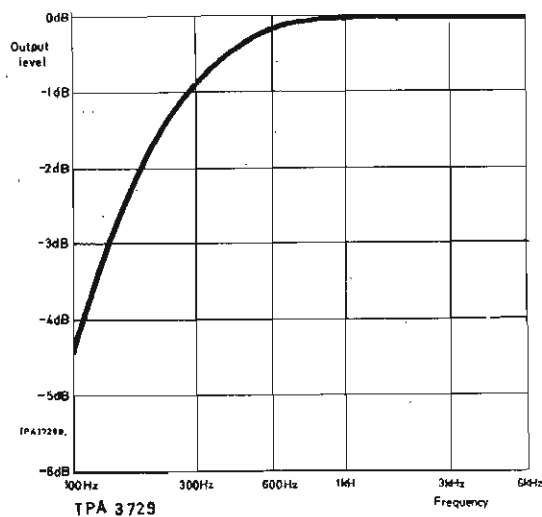

Fig. 2 Typical balanced output level below 6 kHz (ref. to -22dBm, 150 Ω)
5. The level oscillator generates signals which are highly stable both in frequency and amplitude. Frequency may be set between 100 Hz and 19.999995 MHz to 5 Hz resolution. In the range -70 dB to +10 dB output power may be set to 0.1 dB resolution or, alternatively, to 1 dB resolution with continuous fine tuning to ± 1.1 dB. Balanced and unbalanced outputs may be selected over a wide range of impedances. Frequency and level are read from digital displays which flash when an out-of-range condition is selected in error. Typical balanced output levels are given in Figs. 2 and 3.